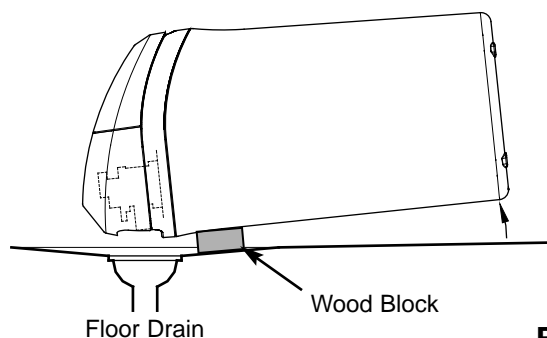

FIG. 52
6. Lay a piece of 2 inch thick board near the floor drain (See Figure 52).